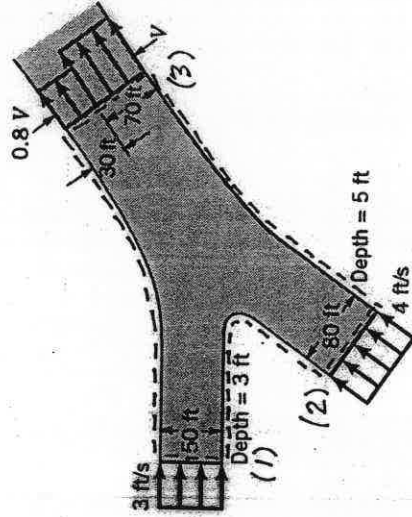

FIGURE P5.17
5.17 Two rivers merge to form a larger river as shown in Fig. P5.17. At a location downstream from the junction (before the two streams completely merge), the nonuniform velocity profile is as shown and the depth is 6 ft. Determine the value of  $V$ .